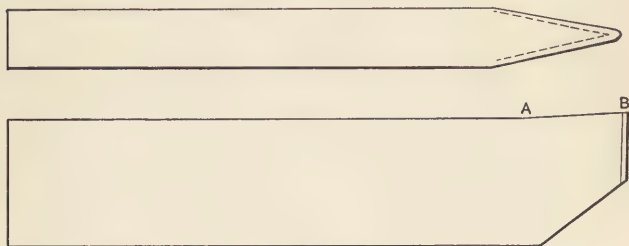

Fig. 47. Round-nose Tool.
**Round-Nose Tool.**—The common round-nose tool, shown in Fig. 47, is used to finish fillets in work and should slant slightly from *B* to *A*, making the point *B* a little higher than the top of the bar.